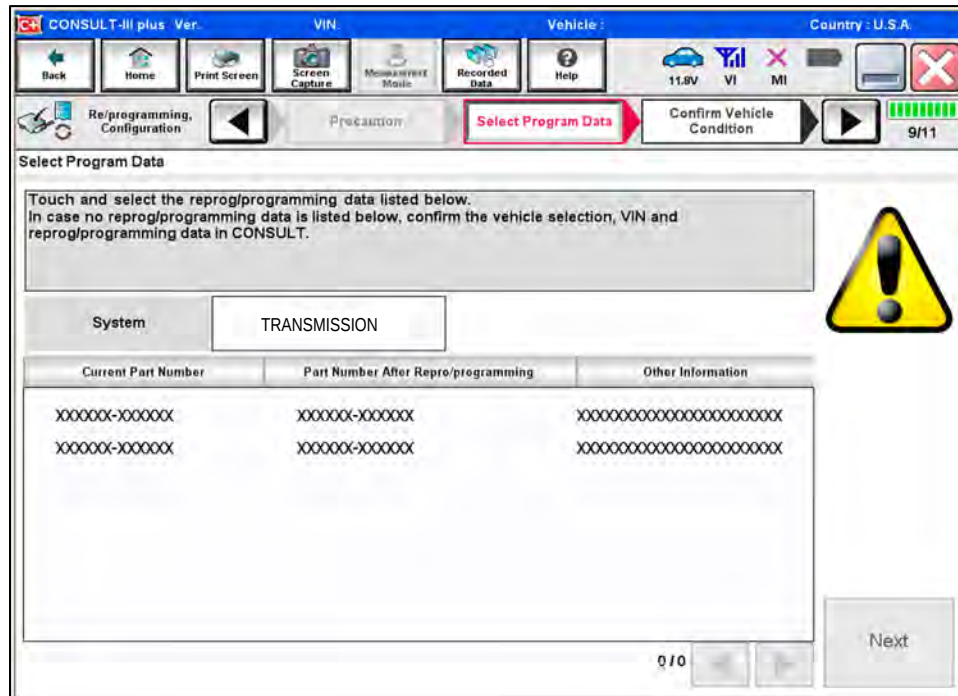

Figure 23
32. Follow the on-screen instructions to navigate C-III plus to the screen in Figure 23 and reprogram the TCM.
- If more than one new P/N is available, the screen in Figure 23 displays.